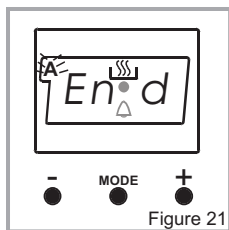

Figure 21
Second; keep pressing on the MODE button until you see “end” on the timer screen. When you see “end” on the timer screen, the symbol (A) and the day’s time will begin to flash, with the addition of the cooking period. Adjust the finishing time for the food by using the (+) and (-) keys while the timer is in this position. Some time after the adjustment operation is completed, the day’s time will appear on the screen and the symbol (A) will begin to continuously light on the screen (Figure 21).